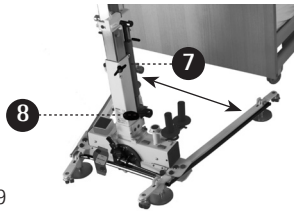
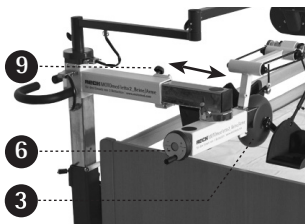

fig. 39
fig. 40
Depending on right or left side application, the rotary arm needs to be adjusted to the right or left side, adapting to the user's position. To adjust the rotary arm to a required position, unscrew the thumb screw **4** and pull the bolt **5**. Now you can adjust the rotary arm **3** to the desired position. The bolt **5** will snap back in automatically and the rotary arm **3** will be in place. Retighten the thumb screw **4**. Set the knee bending adjustment into start position using the manual thumb wheel **6** (fig. 40).
**Adjustment of the training height:** At the minimum height please ensure that the foot shells **1** (fig. 40) do not abrade the mattress when in its lowest position. Slightly lift the pedal **8** (fig. 3) in order to lower the rotary arm. Securely tighten the screw knob after the adjustment **7** (fig. 39).